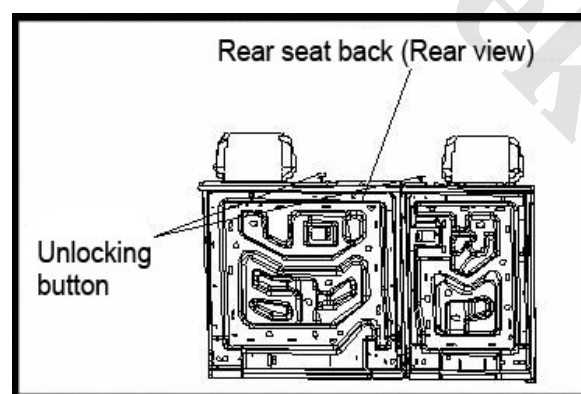

Fig. 7-17
(1) Remove the rear seat back pad assembly
① Lift the unlocking button to unlock the back pad and push over the back pad, as shown in Fig. 7-17.